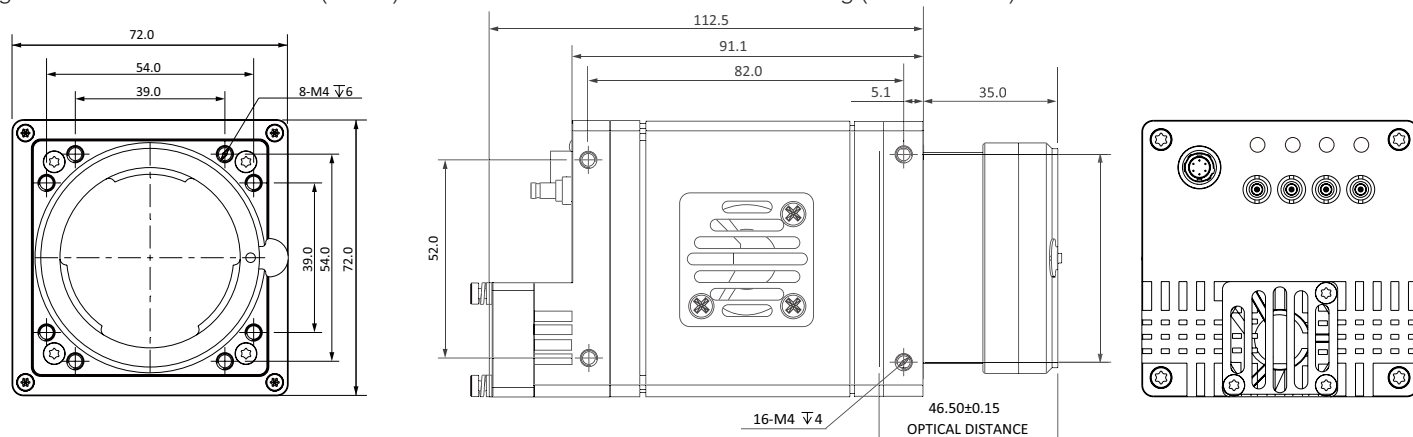

Fig. 1-9: Mechanical Dimensions (in mm) for Cameras with 72 * 72 * 91.1mm housing (F interface).
- Fig. 1-9: Mechanical Dimensions (in mm) for Cameras with $72 \times 72 \times 91.1$ mm housing (F interface).